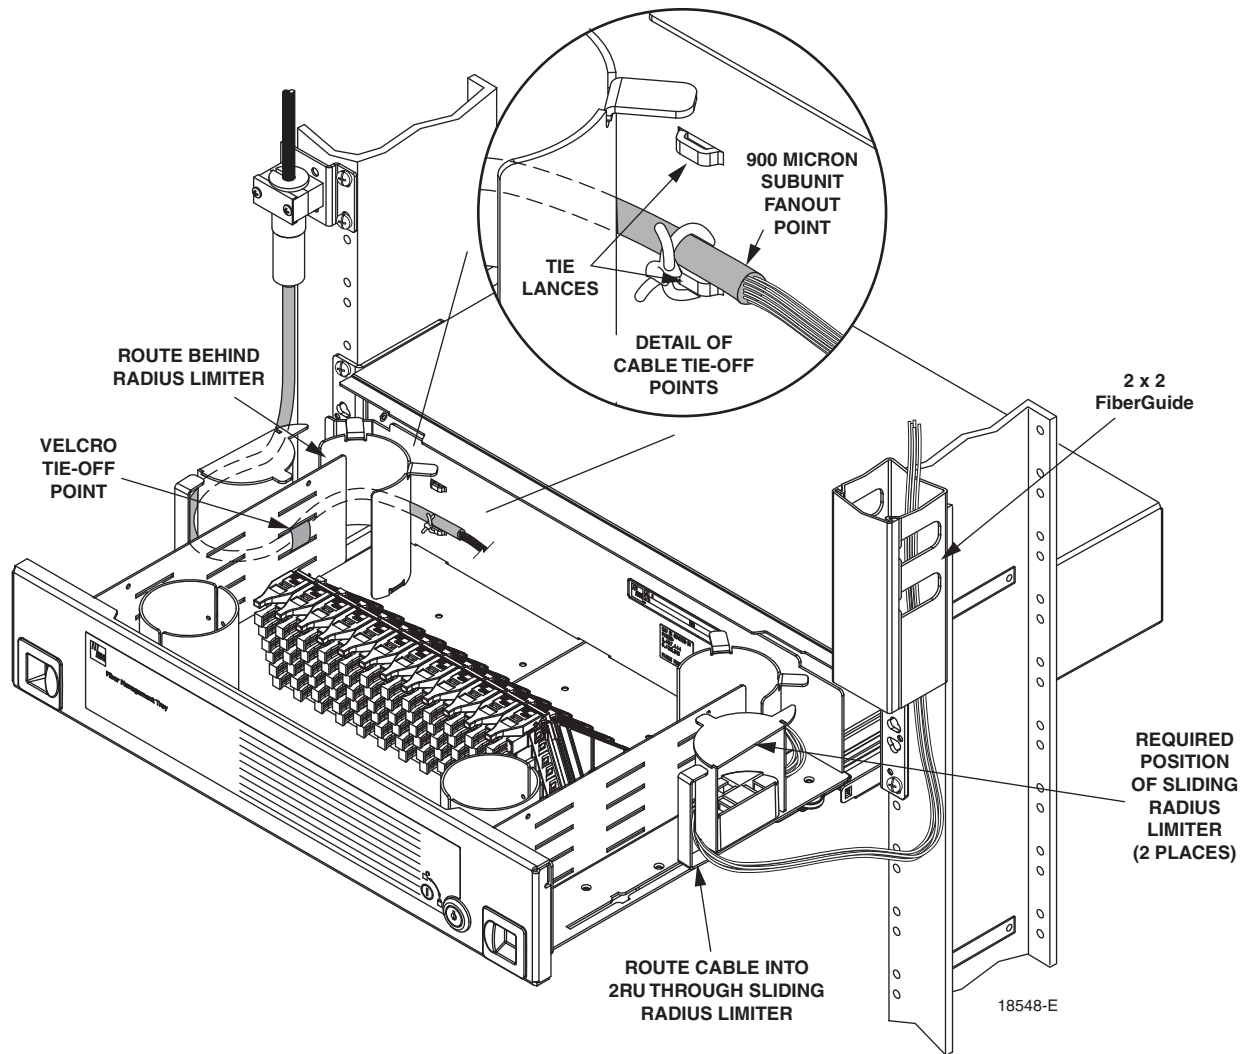

Figure 13. Securing Cables Within 72-Position Termination Tray
2. Route the cable along the rack to the 2RU FMT, as shown in Figure 13.
6. Secure the cables on the side and rear of the tray as shown in Figure 13.